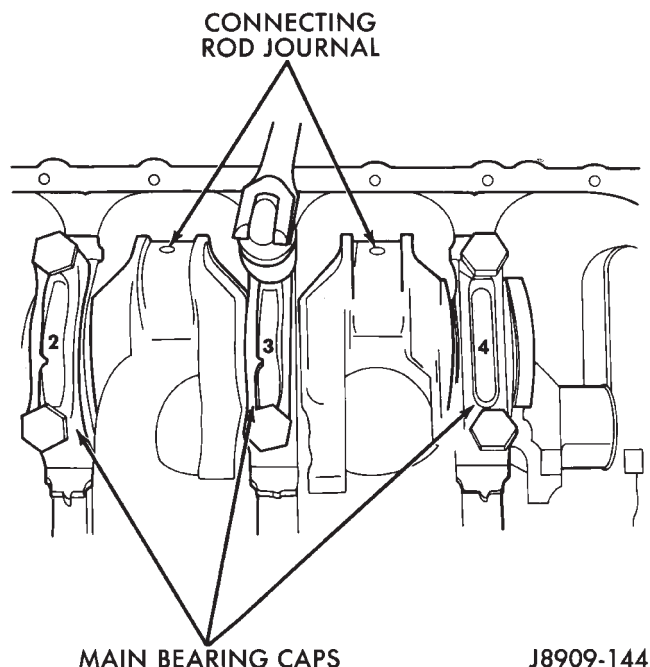

Fig. 53 Removing Main Bearing Caps and Lower Inserts
- (1) Disconnect negative cable from battery.
- (2) Remove the spark plugs.
- (3) Raise the vehicle.
- (4) Remove the oil pan and oil pump.
- (5) Remove only one main bearing cap and lower insert at a time (Fig. 53).
- (6) Remove the lower insert from the bearing cap.